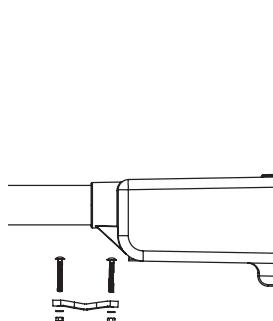

Figure 5
8. For the T-slot mount make sure one **T-slot Bolt** is on each side of the crossbar. Using the **Non-Threaded T-slot Foot**, place it under the crossbar and insert both **T-slot Bolts** into the corresponding holes in the foot. Using a **½ inch Wrench** screw on **T-slot Nuts** to secure unit to crossbar as shown in **Figure 5**